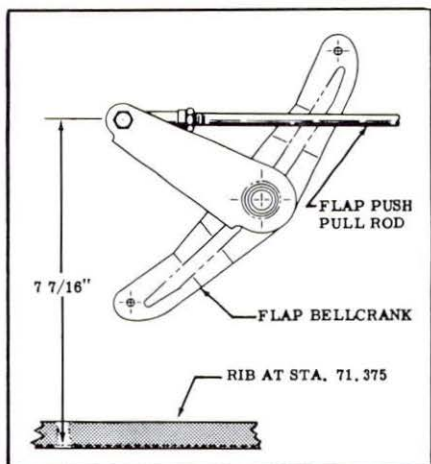

Figure 14. Flap Bellcrank Adjustment
Figures 14 to 20 inclusive outline the control systems, including control travel limits, location of control stops, and the location of turnbuckles. The use of the single wrap method using .040 monel wire for safetying turnbuckles is satisfactory and CAA approved. Rigging methods for the various systems are outlined below:
- until the flap bellcrank is in the position shown in figure 14.
- (4) Release the hand pressure that was applied to the flap trailing edge in step 2 and tighten the flap-up cable turnbuckle located behind the doorpost until the